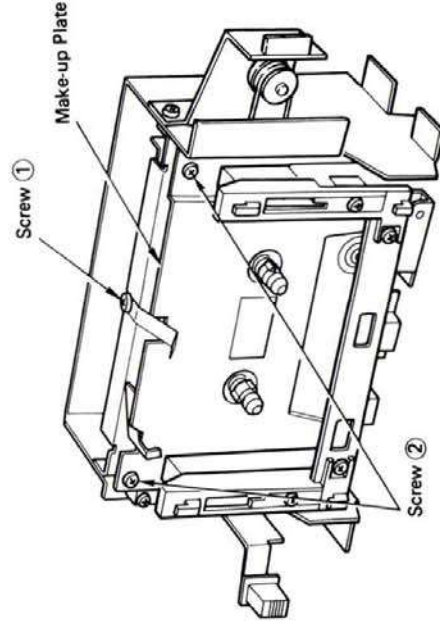

Fig. 8
- 1) Remove the mechanism assembly as described in procedure 1 above. To remove the cassette spring, remove screw ① shown in Fig. 8.
- 2) To remove the make-up plate, remove 2 screws ② shown in Fig. 8.